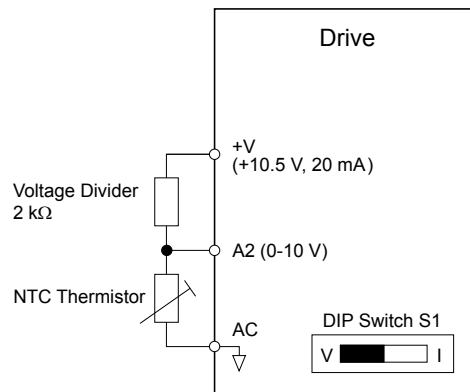

Figure 5.69 Motor Protection Circuit Using NTC Input
*Figure 5.69* shows a circuit using the NTC thermistor and the terminal resistance values. Set jumper S1 on the drive to for voltage input when wiring the NTC thermistor input to terminal A2 on the drive.